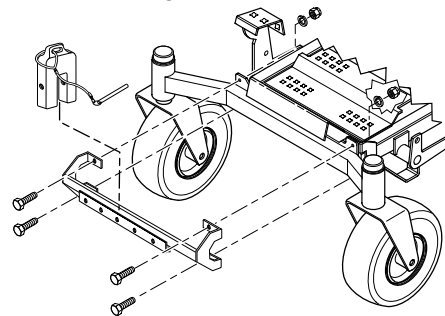

FIGURE 3-6
front of the machine as shown. See Figure 3-6.
16. Install one 7/16-14 x 1-3/4" hex head bolt into each of the four mounting holes in the weight support bar, and through the matching holes in the caster support weldment. Secure this assembly to the front of the machine using the 7/16- .5" x 1-1/4" x .083" flatwashers, and the 7/16-14 elastic stop nuts. Torque hardware to 59 ft. lbs. See Figure 3-6.